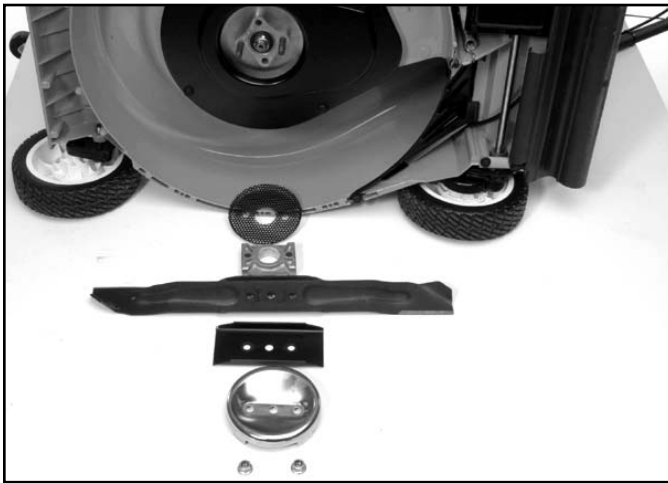

Fig 169
2. Remove the 2 flanged nylon locknuts securing the blade to the bearing block and remove the anti-scalp cup, the blade, the blade spacer, and the lower BBC screen (Fig. 169).